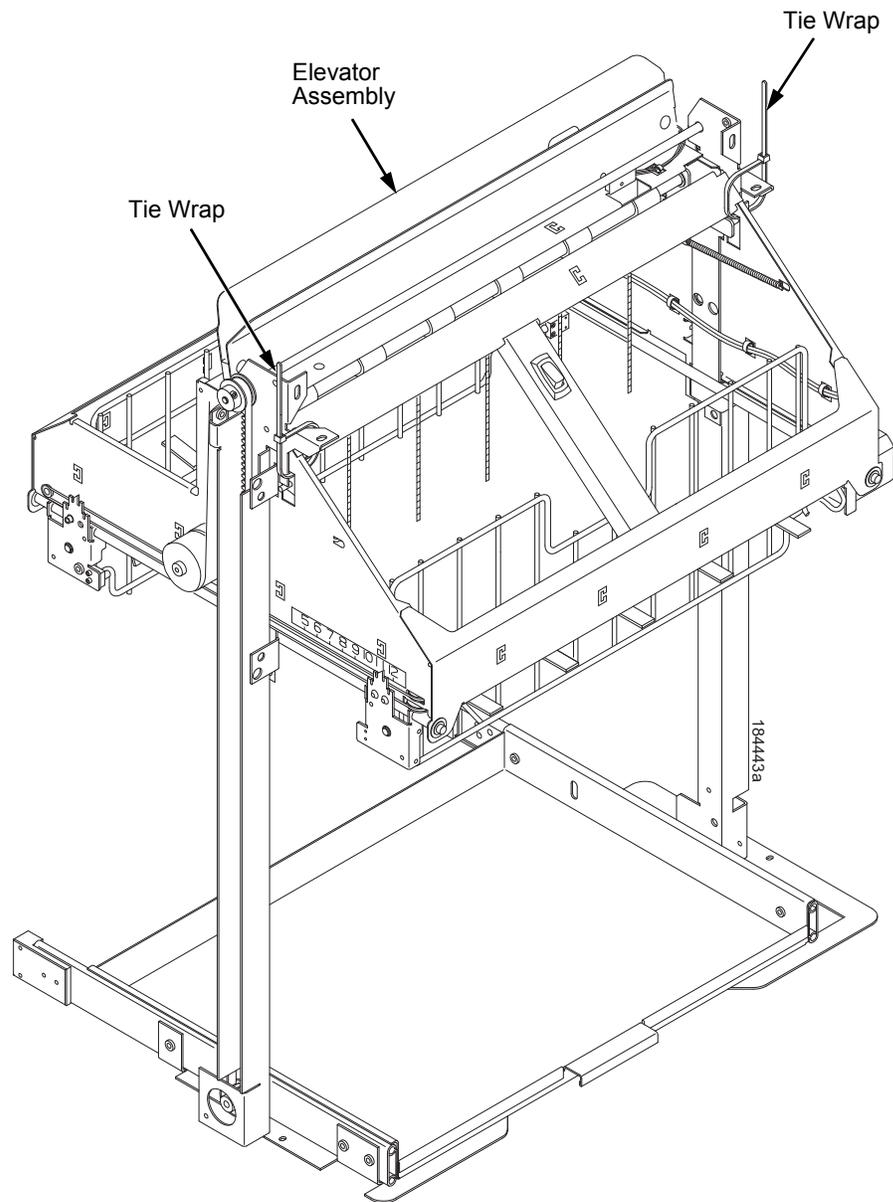

Figure 26. Securing the Elevator Assembly
2. Raise the elevator assembly to within about 1/4 inch of its highest position and secure it to the vertical rails using tie wraps or string. Do not over-tighten the tie wraps or string; tighten them just enough to hold the elevator up. (Figure 26.)
2. Raise the elevator assembly to its highest position and secure it to the vertical rails using tie wraps or string. Do not over-tighten the tie wraps or string; tighten them just enough to hold the elevator up. (Figure 26, page 408.)